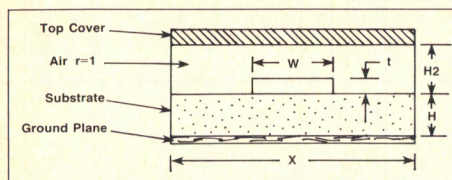

Figure 3. Microstrip dimensions.
The closed-form equations for microstrip were taken from the articles written by March (2) and Bahl (3). The most accurate equations are those by March which are used in the microstrip program. The dimensions for covered microstrip are shown in Figure 3. It should be noted that the equations do not take into account the presence of side walls. The distance between the side wall and the microstrip line must be a minimum of five times the strip width W , otherwise the impedance and dielectric constant will be affected. Also, the "X" dimension of the enclosure should be chosen such that the waveguide modes are below cutoff.